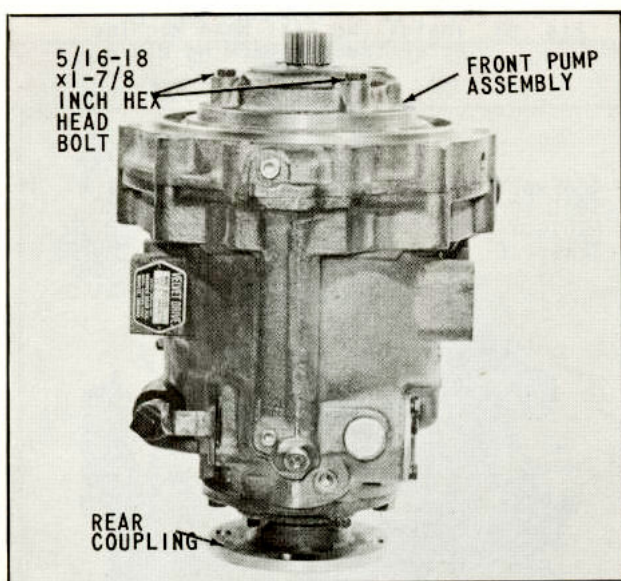

Fig. 97 Bolting Front Pump Assembly
15. With front pump assembly resting squarely on gasket and seal assembly tool removed, install four (4) 1-7/8 long hex head bolts, (Fig. 97). Tighten hex head bolts evenly to torque of 17 to 22 pounds-feet.